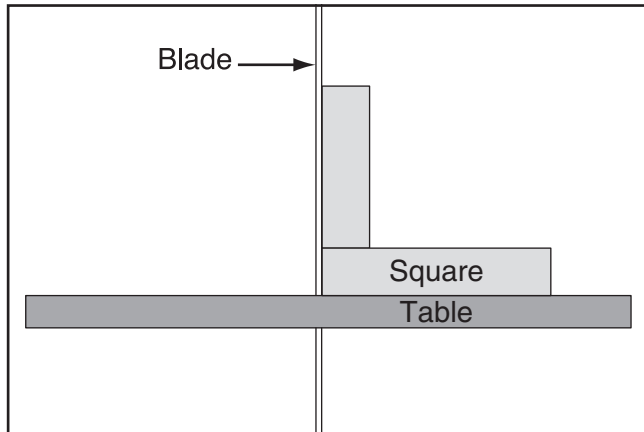

Figure 16. Using a square to adjust table perpendicular to the side of blade.
9. Completely raise upper blade guide assembly, then place machinist's square flat on table, against side of blade (see **Figure 16**).
10. Loosen table lock lever, and tilt table until square is flat against side of blade, as illustrated in **Figure 16**. When complete, tighten lock lever.